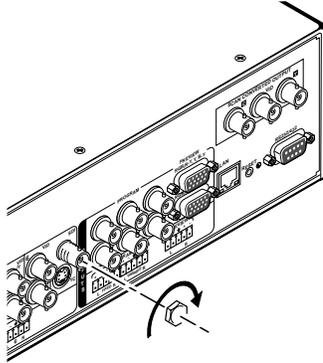

Figure 7-5 — Secure the input board to the rear panel
7. Secure the input board to the back panel with the included hex nut (figure 7-5).